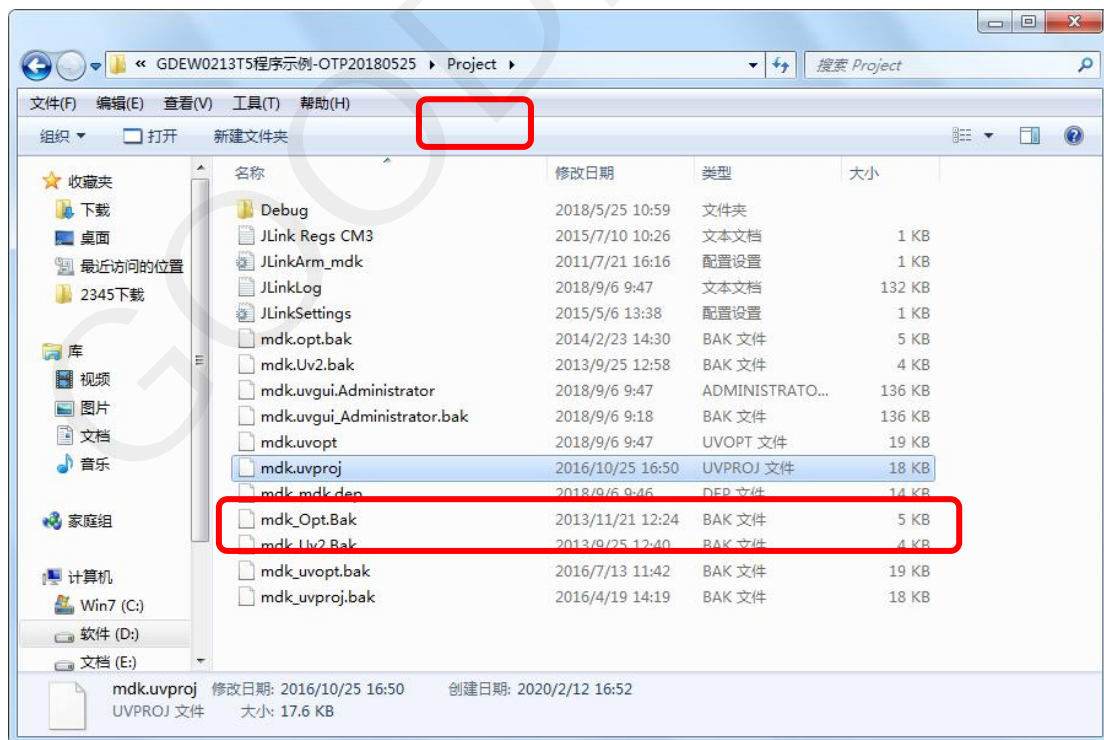

Figure 7 : Open the mdk.uvproj
- 2) Open the "mdk.uvproj" in the program folder "Project" shown in Figure 7 with Keil4.